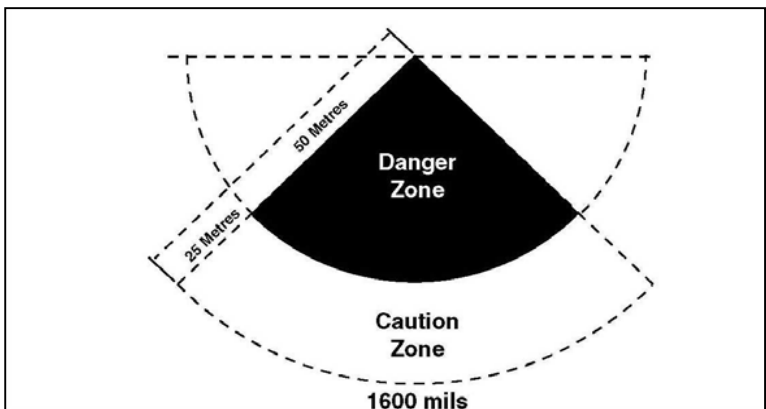

Figure 2-1-4: TOW 2 Backblast Danger Areas
19. **Backblast.** The TOW 2 missile backblast area extends 75 metres to the rear of the launcher and forms a 1600 mil danger area fan. It is divided into two zones: a DANGER ZONE and a CAUTION ZONE. In the DANGER ZONE, which extends 50 metres to the rear of the launcher, serious casualties or fatalities are likely to occur, due to the blast and flying debris. In the CAUTION ZONE, personnel are relatively safe, providing they do not face the back end of the launcher. This area extends an additional 25 metres to the rear of the danger zone. It is always kept clear during training (see Figure 2-1-4).